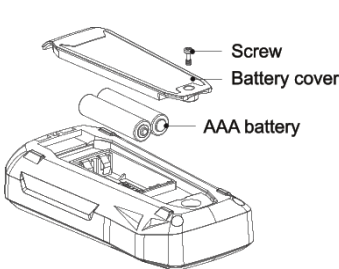
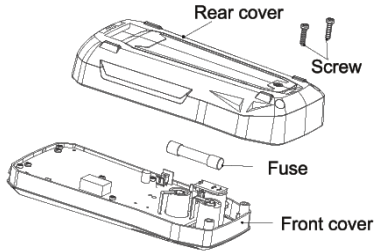

Figure 4a
Figure 4b
11. Maintenance and repair (Figure 4a)
3. Replace batteries or fuse (Figure 4a and Figure 4b). The meter uses 2 pieces of AAA 1.5 V batteries, please install or replace batteries according to the sequence below: